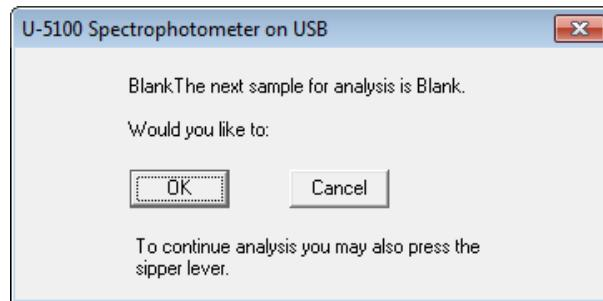

Fig. 7-4
For blank measurement in the course of sample measurement, click the **Blank (F5)** button (refer to (1) in Fig. 7-3). When a dialog box as shown in Fig. 7-4 appears, set a blank sample and press the sipping lever.